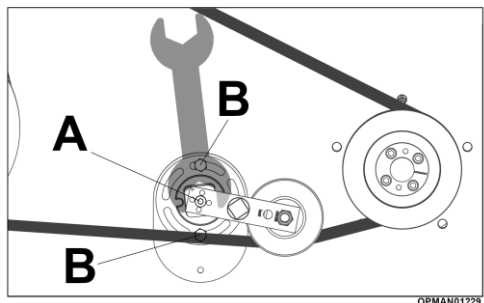

Figure 5.22
- 5.4.2.7 Continuing to turn against the belt tensioner to maintain 15 degrees, re-tighten the centre bolt on the belt tensioner, see Figure 5.22 (A) and the two bolts securing the tension keeper; see Figure 5.22 (B).